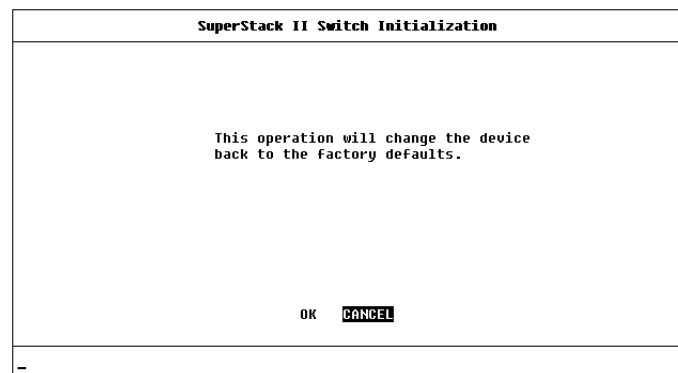

Figure 4-19 Initialize screen
- 1 From the Main Menu, select the INITIALIZE option. The Initialize screen is displayed as shown in Figure 4-19.